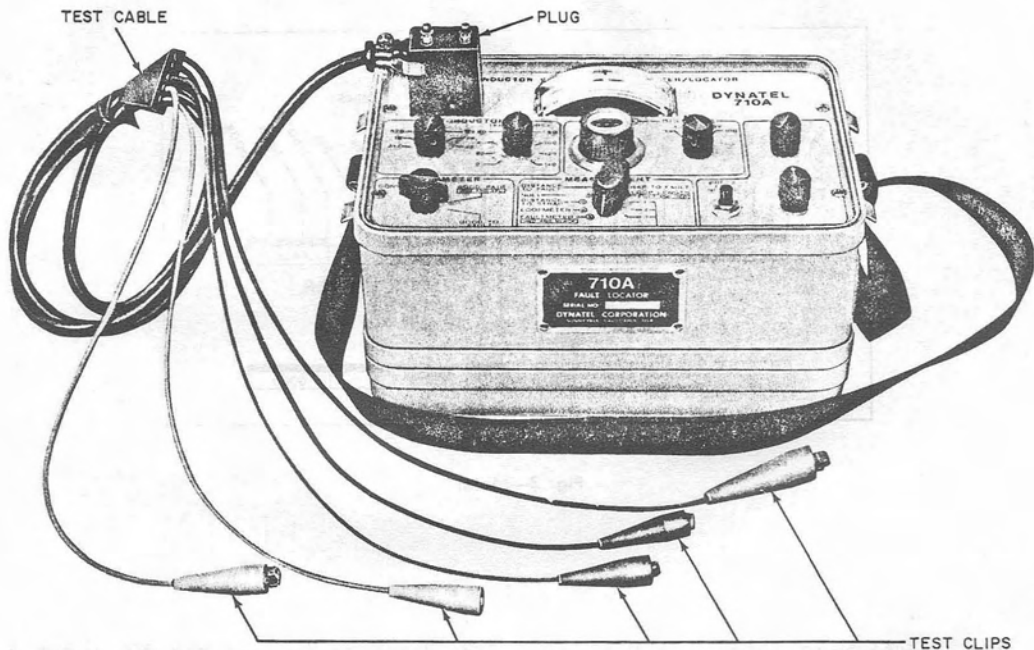

Fig. 4—Test Cable Attached to Test Set
**2.04 Test Cable**—This test cable (Fig. 4) is used to connect the test set to the good and faulted pairs. The cable also has a test fault built into the plug. Connecting the test clips to the terminals of the same color on top of the plug provides a means for checking the complete operation and calibration of the test set, test cable and when used, the extension cable.